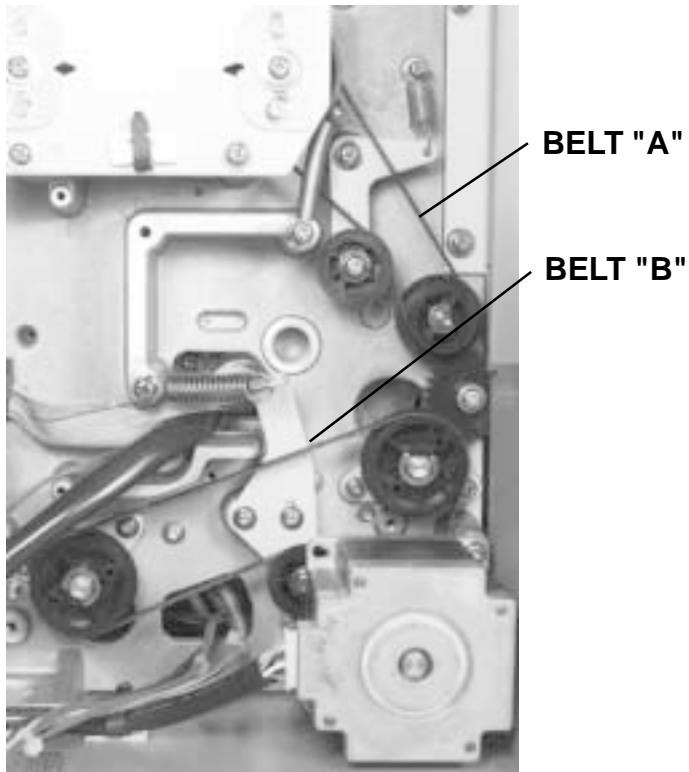

Fig. 6-20
4.	Refer to Fig. 6-20 & 6-21 Locate Belts "A" and "B" in the electronics compartment.